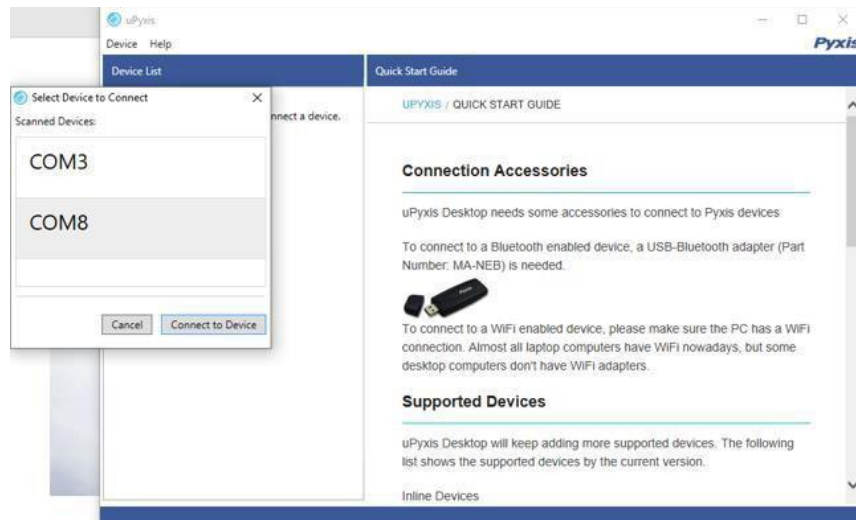

Figure 19 - Select a Comm Port
4. Select the Comm Port to make a connection (Figure 19) normally only one Comm port is identified by uPyxis. If more than one Comm port listed in the selection dropdown, you may try to select each one to see if a connection can be made. Alternatively, you may use the Windows Device Manager to identify the Comm Port that the Pyxis USB adapter is used.